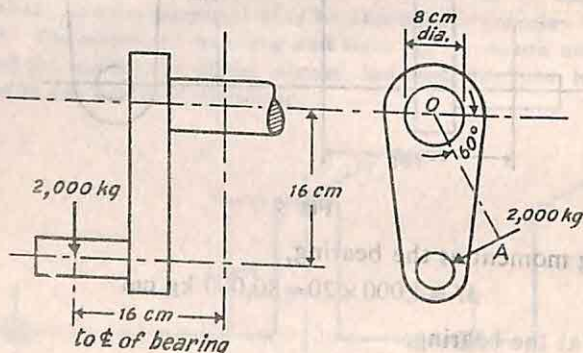

Fig. 6
17. Two views of an overhung crank are shown in Fig. 6, a force of 2,000 kg being applied to the crank-pin in the direction shown and at a distance 16 cm from the centre of the adjacent bearing. The crank-shaft is of solid section of 8 cm diameter. Calculate the maximum principal stress and maximum shear stress in the section of the shaft at the centre of the bearing.